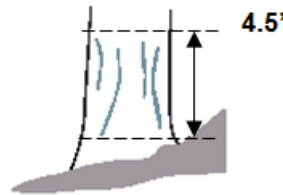

Figure 7 - Tree on a Slope
- Tree on Slope: Measure diameter at 4.5 feet from the ground along the bole on the uphill side of the tree (Figure 7).